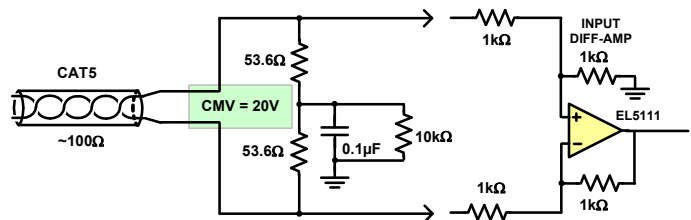
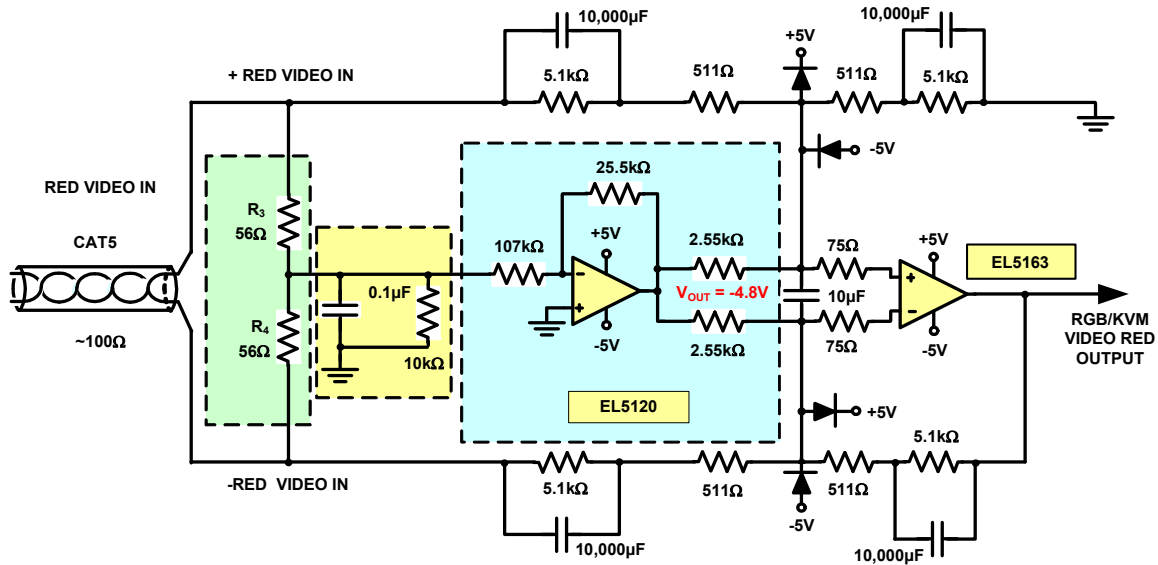

FIGURE 4. $\pm 6V$ CMV CIRCUIT
FIGURE 10. RED OF RGB/KVM ACTIVE CMV CANCELLATION
2. **NTSC Video Resistor Diff-Amp with $\pm 6V$ to $\pm 20V$ CMV** - The second circuit, Figure 4, is based on a CMOS amp, EL5111, using feedback resistors and input series resistors to form the resistor diff-amp. This circuit will increase a typical diff-amp CMV to $\pm 6V$ CMV.
Note: (Figure 4) NTSC/PAL - Why 53.6 Ω vs 50 Ω ? To insure Input Impedance is maintained at 100 Ω . The diff-amp 1k Ω input and feedback resistors were used for low noise and stable amp operation, yet the input resistors appear as a 1k Ω load to the cable. To maintain 50 Ω load to the Cat 5 cable, we change the cable input series termination to 53.6 Ω and the overall parallel input impedance value is 100 Ω at high frequency.
Why the 5.1k series resistor (Figure 10, R_1 and R_2)? The RGB high CMV amp needs higher input impedance at 50Hz to 60Hz to prevent excess CMV current load. The peak CMV current is now 3.3mA per each input line for a total of 6.6mA of CMV current.
Note: (Figure 10, R_3 and R_4) RGB/KVM - Why 56Ω vs 50Ω? To insure Input Impedance is maintained at 50Ω. For the same reason as in Figure 4, we change the cable input series termination to 56Ω and the overall parallel input impedance value is 50Ω at high frequencies.